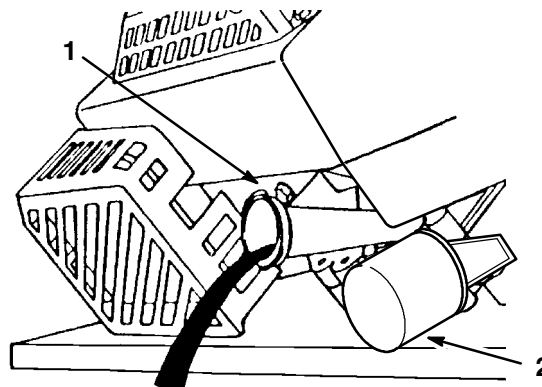

Figure 28
- Tip the lawn mower onto its left side, allowing the oil to drain into the drain pan (Fig. 28).